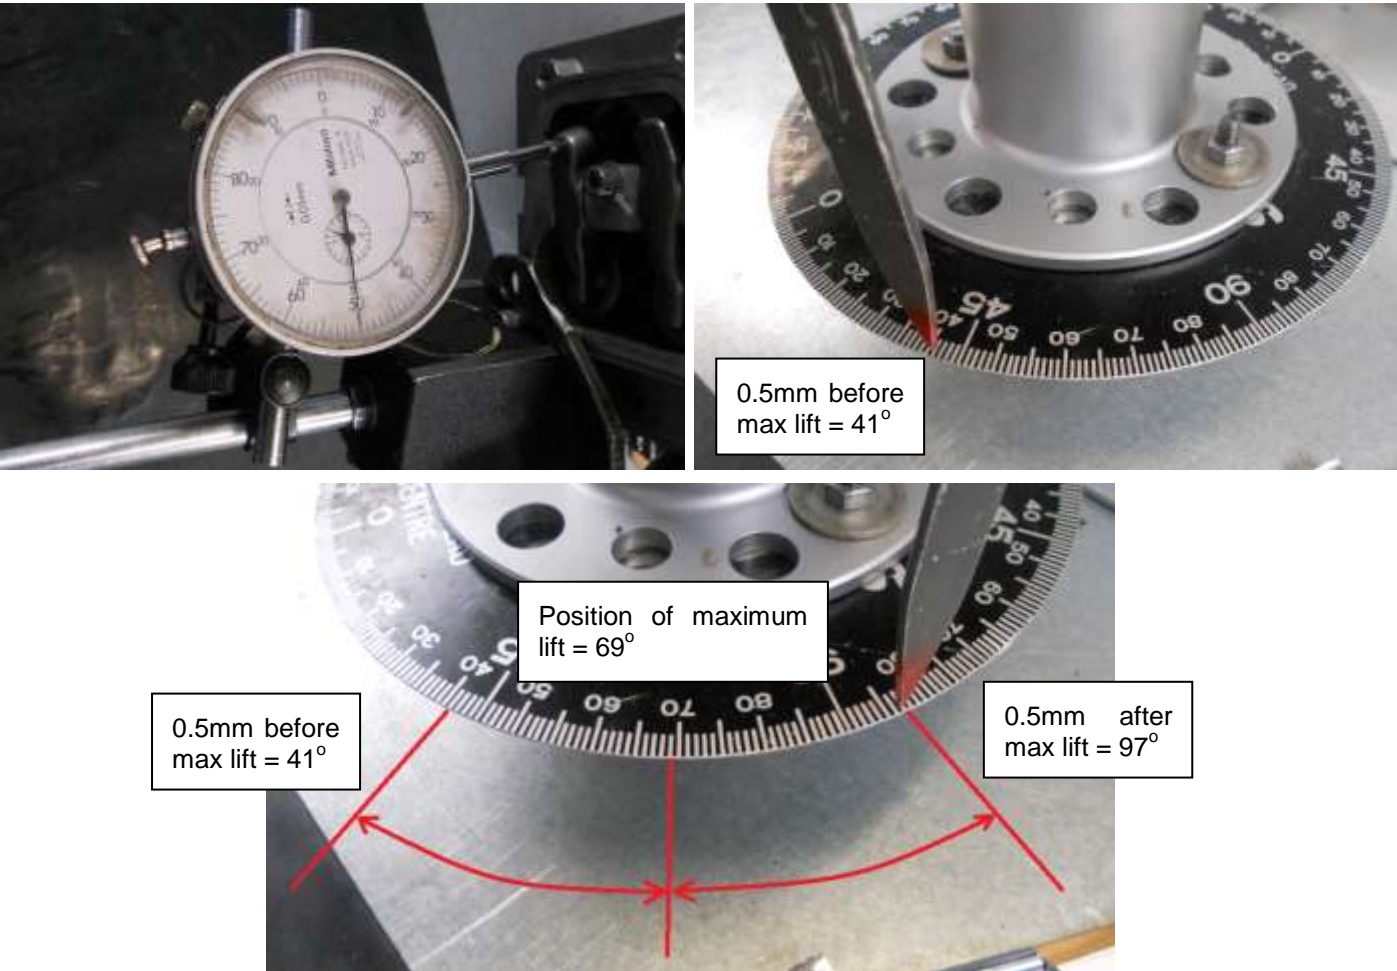

Figure 127 - Locating the position of maximum lift for the exhaust lobe on number 1 cylinder
- The position of maximum lift is equidistant between the two angles indicated at 0.50mm before and after maximum lift. Figure 127 shows an example.